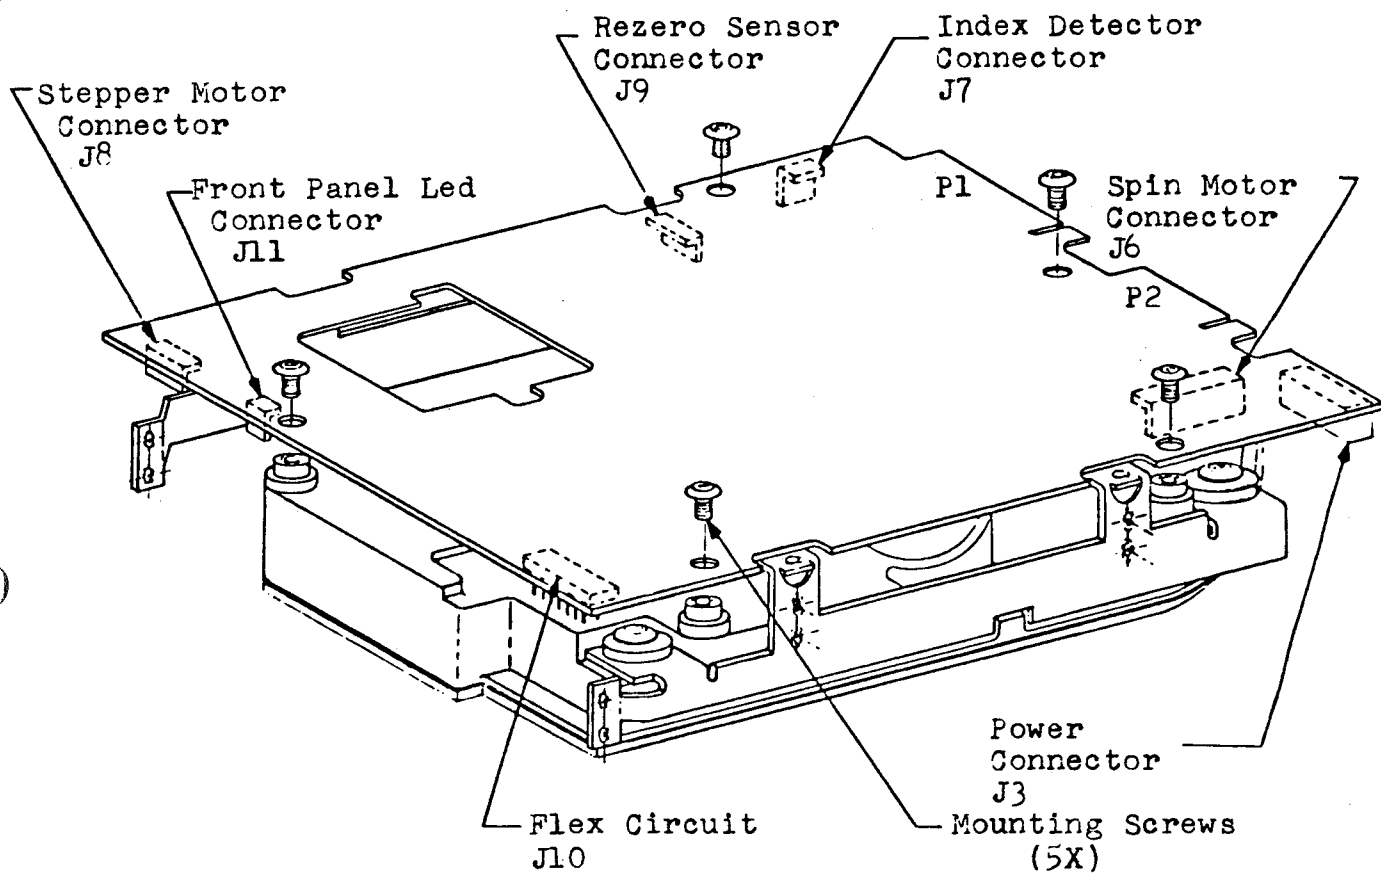

FIGURE 9-1
9.0 PRINTED CIRCUIT CARD REPLACEMENT (See Figure 9-1)
- Step 5: Disconnect all remaining connectors (refer to Figure 9.1).